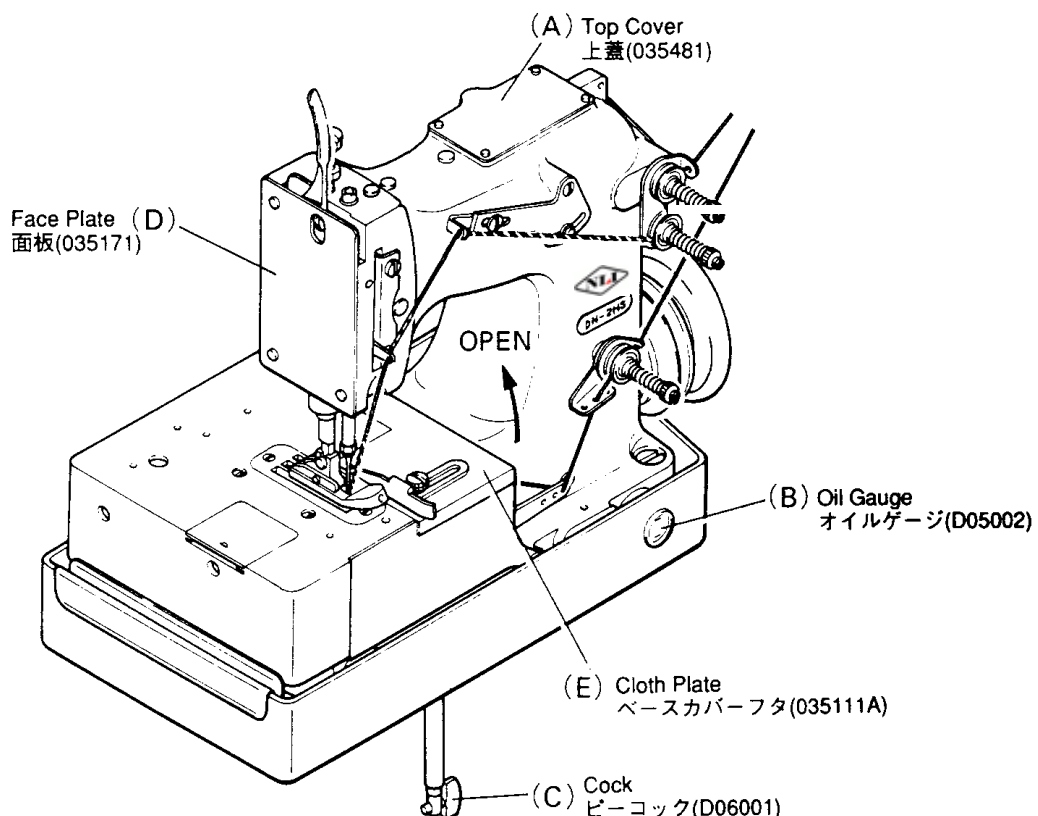

Fig.1
- Remove Top Cover (A). of Fig.1, and fill oil to "H" line of Oil Gauge (B). Use mineral oil of 22 to 32 cst kinetic viscosity at 40 .
- To drain oil, open Cock (C). of Fig.1 Replace oil once every 2,000 hours of operation.
- a) Needle Bar Bushing, upper and lower (after removing upper Face Plate (D)).
- b) Feed Lift Eccentric Ass'y (after opening Cloth Plate (E)).
給油は次の通りに行ってください。(Fig.1)